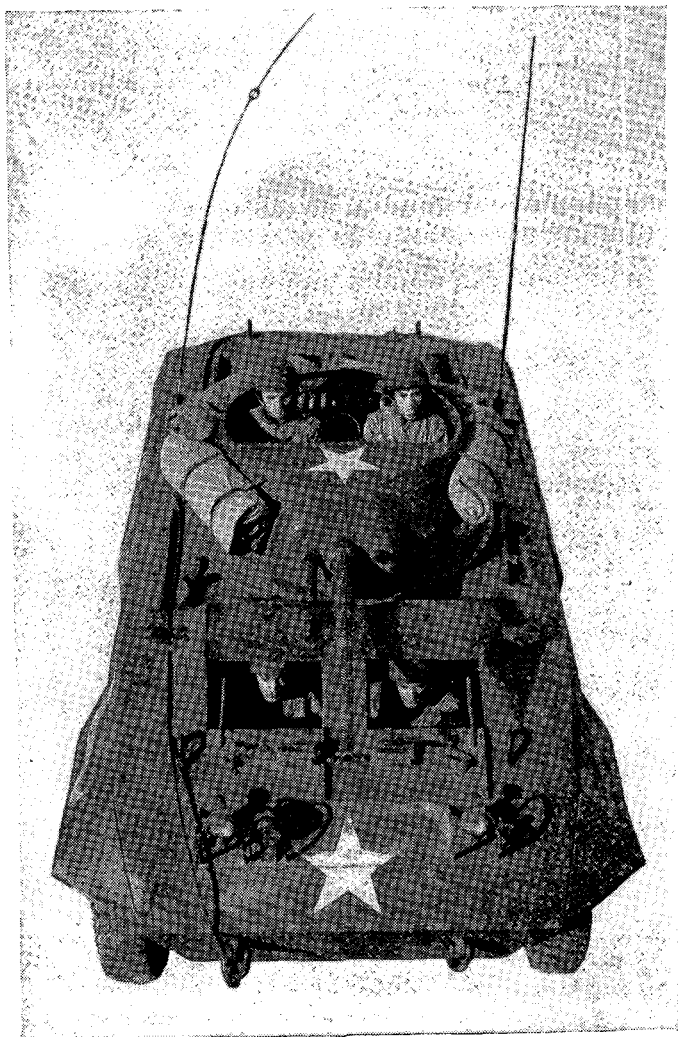

FIGURE 4.—Crew at MOUNTED POSTS.
b. Mounted posts.—The crew forms mounted as follows (see fig. 4):